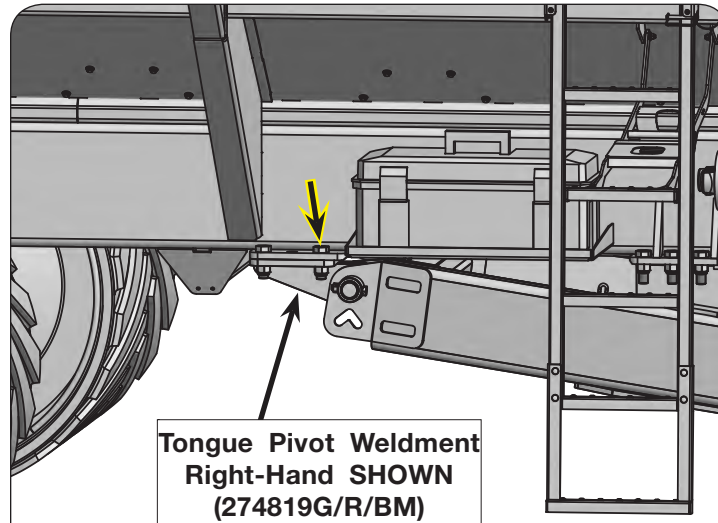

FIG. 2-5
7. Remove and save the 1"-14UNS x 3" capscrews (9390-409) and 1"-14UNS elastic lock nuts (9008441) from the tongue pivot weldments (left-hand 274818G/R/BM; right-hand 274819G/R/BM). (FIG. 2-5)